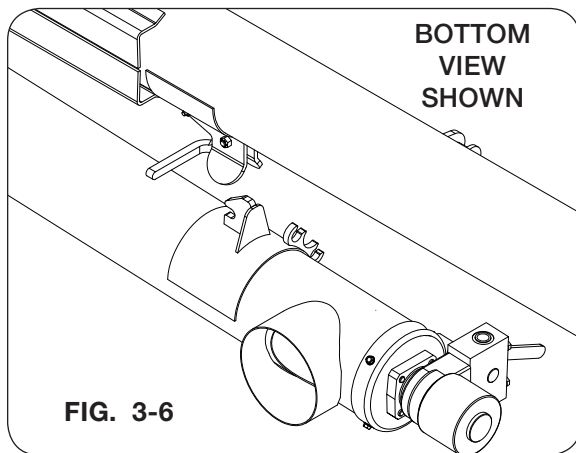

FIG. 3-7
13. Separate the two velcro straps (108088) and loop one strap through the nylon handle on the spout. Wrap the strap around the spout and velcro the strap ends together as shown in Fig. 3-7.